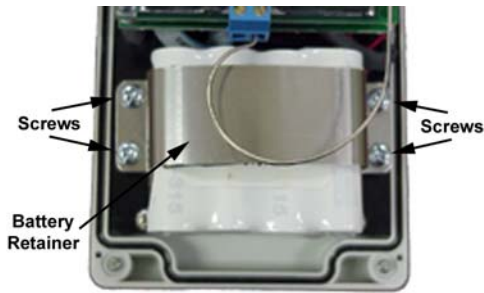
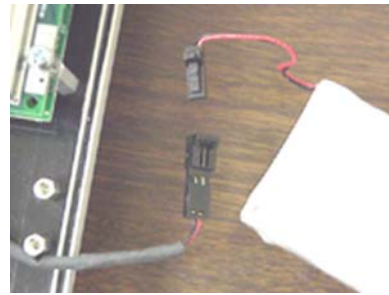

Figure 9-4 – Battery Retainer
Figure 9-5 – Disconnecting Battery Pack
- 8.5.2 If a Battery Pack is being replaced, locate the used Battery Pack (Figure 9-3). Remove the four Battery Retainer Screws (Figure 9-4). Disconnect the used Battery Pack (Figure 9-5).
- 8.5.4 Carefully pack the battery wires, position the Battery Pack in its original location, and re-install the Battery Retainer (Figure 9-4).